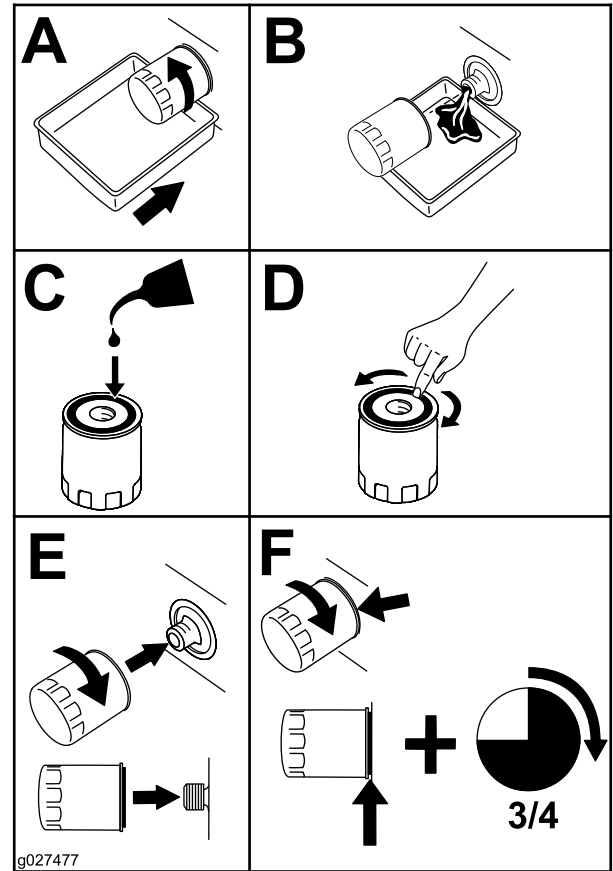

Figure 39
5. Change the engine-oil filter (Figure 39).